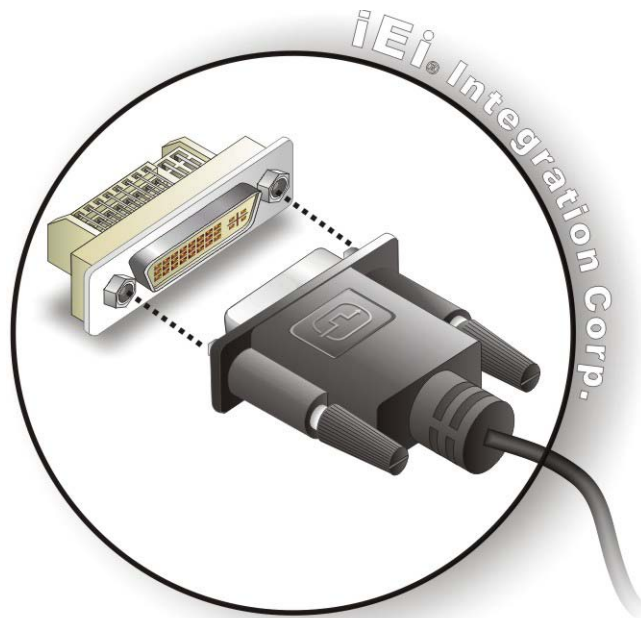

Figure 3-15: DVI Connector
Step 3: Insert the DVI connector. Once the connectors are properly aligned with the male connector, insert the male connector from the digital display device into the female connector on the TANK-820-H61. See **Figure 3-15**.